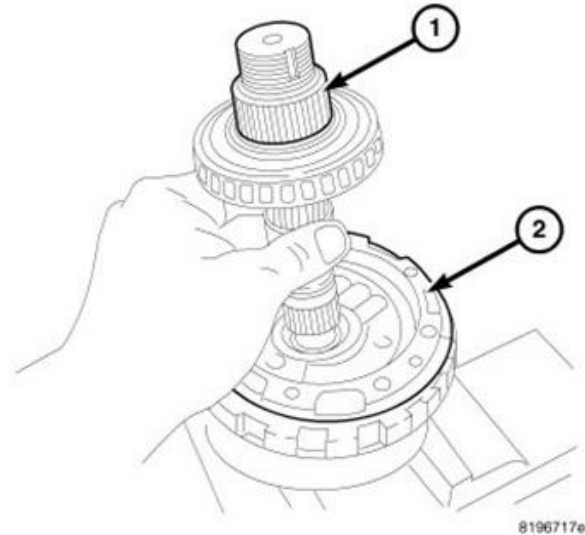

Figure 40 – Underdrive Shaft
56. Remove the underdrive shaft (1) from the low clutch (2) (Figure 40).
57. **DISCARD** the low clutch assembly (2) (Figure 40).
58. Obtain a **NEW** low clutch assembly (2) then reassemble compounder components in reverse order (Figure 40).
59. Install the underdrive shaft (1) to the lower clutch (2) (Figure 40).